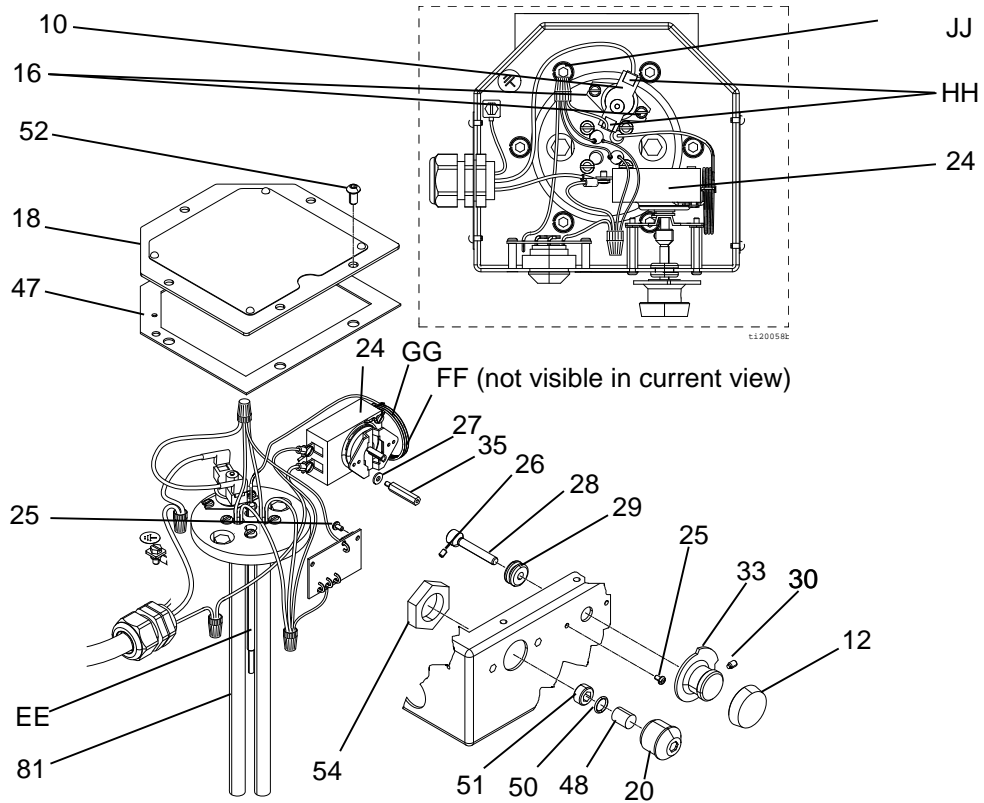
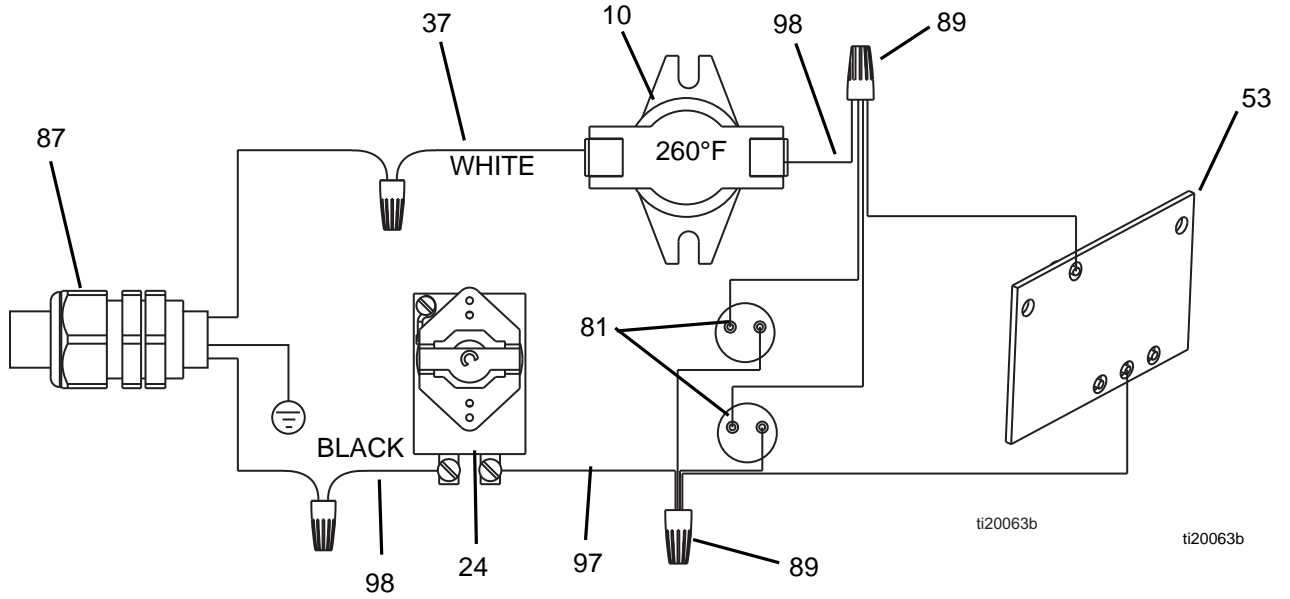

FIG. 5: Thermostat Repair
FIG. 6: Electrical Schematic
1. Connect the electrical supply ground wire to the green ground screw inside the heater electrical compartment. See FIG. 5 and FIG. 6.
(See FIG. 5 on page 13)
- Refer to FIG. 6 for wiring connections.
- Make sure gasket (47) is installed and aligned with electrical housing screw holes.
- Secure cover (18) with screws (52). Torque screws to 89 in-lb (10 N•m).
- Refer to FIG. 5 for wiring connections.
- Secure cover (18) with screws (52). Torque screws to 85-90 in-lb (10 N•m).
4. Perform **Replace Heater Core and Unclog Fluid Passage** procedure on page 14. This includes removing the inlet housing (65).
5. With the inlet housing removed, remove 5 screws (52) and cover (18).
6. Disconnect wires from heater cartridges (81).
7. Remove pipe plug (95) and springs (31) from bottom of core (68).
9. Wire new cartridges per FIG. 6, page 13.